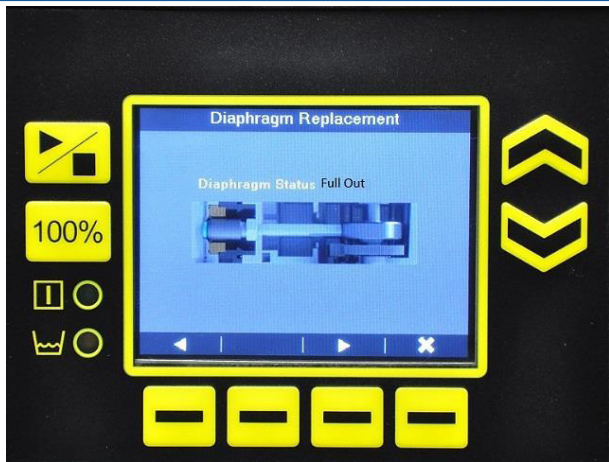

Figure 32: Diaphragm Replacement (Full Out)
7. Press **Left**  to fully extend the diaphragm to the full out position (Figure 32).